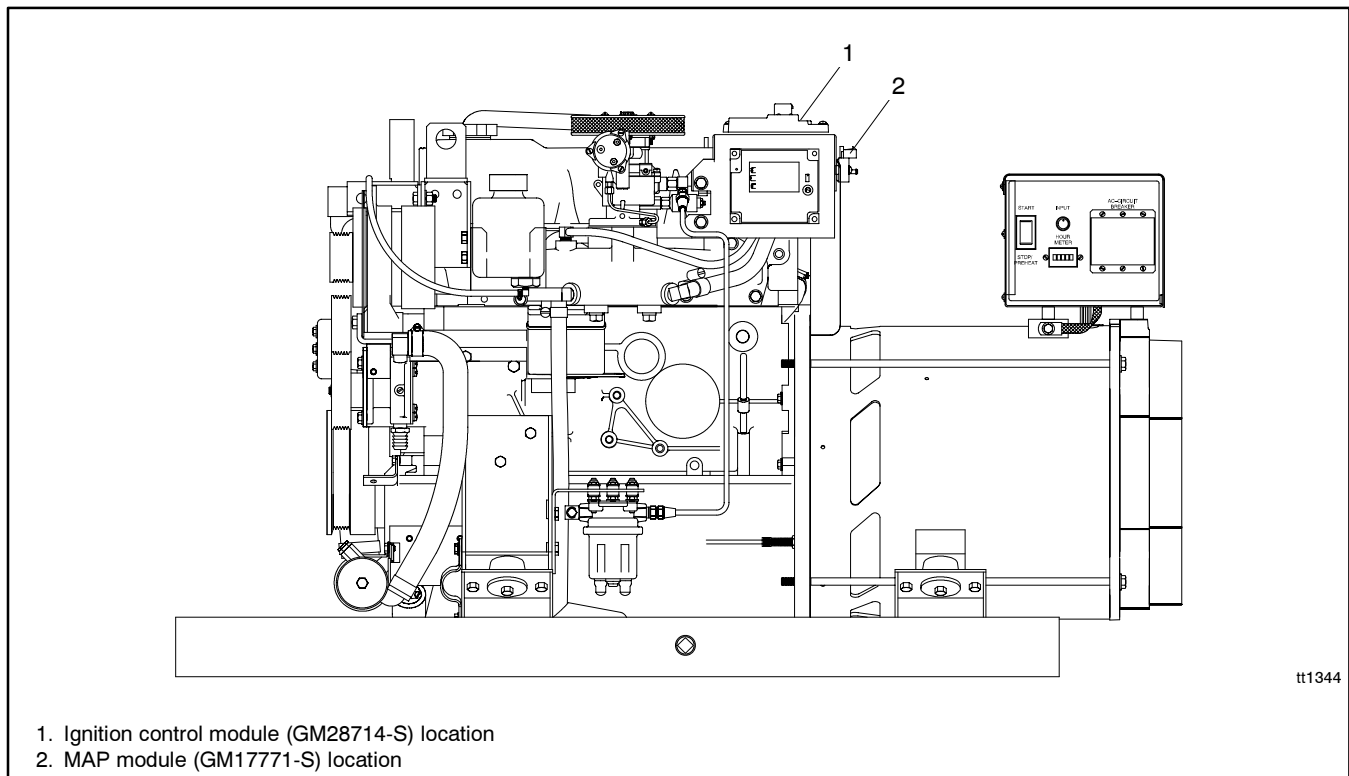

Figure 1 Installed Ignition Control Module and MAP Sensor Locations, Marine 15-20 kW Generator Set
See Figure 1 through Figure 3 for the installed kit locations.
2. Locate the mounting bracket for the governor module and ignition control module and remove it from the generator set. See Figure 1.